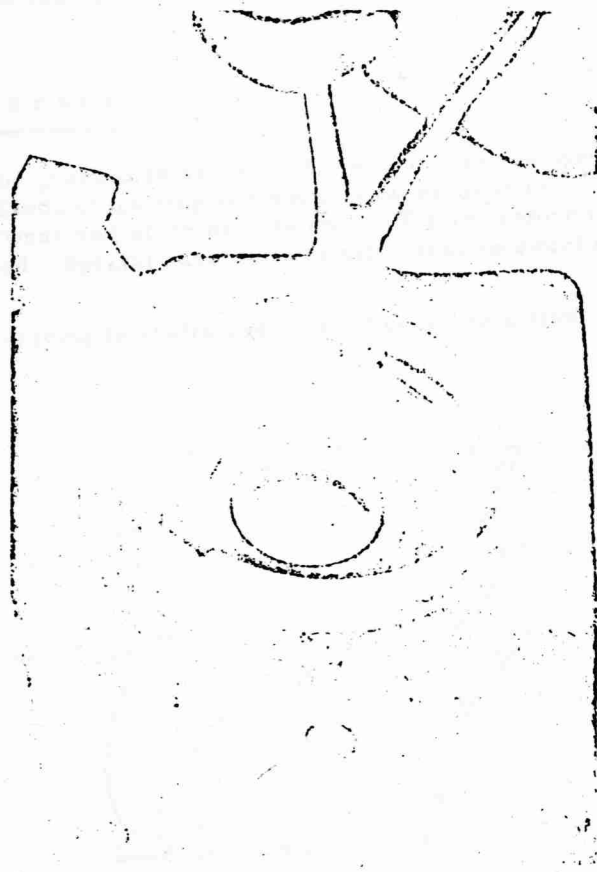
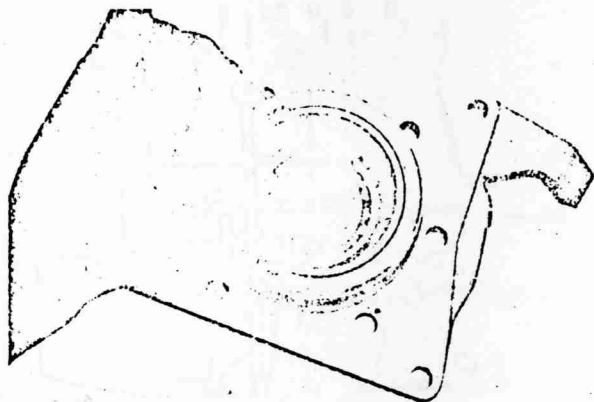

Fig. 15
Fig. 14
Release circlips (915) on output drive axles (922) (Fig. 14) and press out the axles. Force out the bearing outer rings (911) with tool .19. Release circlips (913) (Fig. 15) and press the ball bearings out of the flanges. Remove seal rings (921).